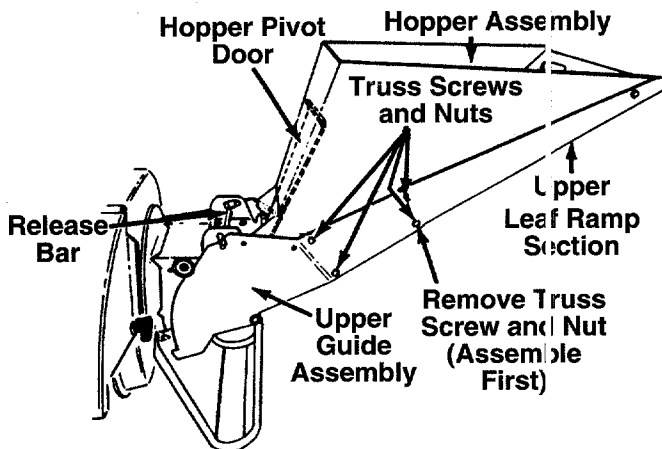

FIGURE 4.
Your chipper-shredder has been shipped with the upper leaf ramp section attached to the hopper assembly. See figure 4. Attach the hopper assembly to the upper guide assembly as follows. Be certain to place heads of all truss machine screws **inside** of hopper assembly.
- Remove one truss machine screw and nut from each side of hopper assembly as shown in figure 4. **Push hopper pivot door down inside lower part of hopper** as you place hopper assembly (both pieces) **inside** upper guide assembly. Replace truss screws and nuts just removed, using the hole shown in figure 4, one on each side. Tighten finger tight only.